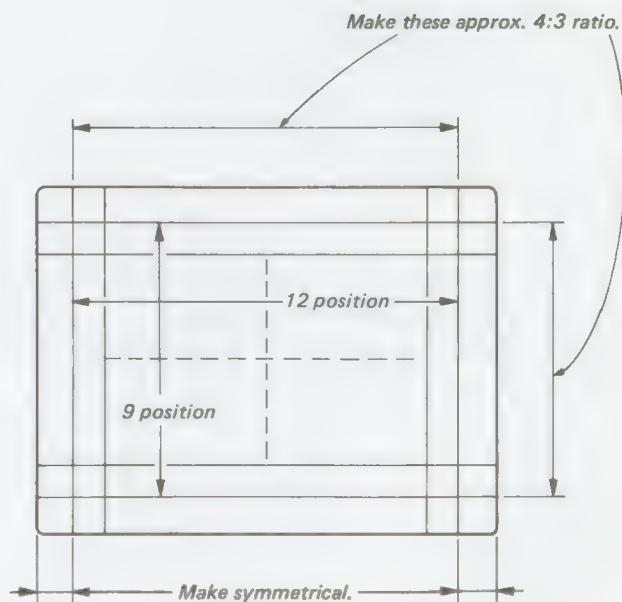

Fig. 5-135.
6. Adjust RV 1 and L1 so that the ratio of 12 horizontal portions and 9 vertical portions is approx. 4:3 and the horizontal positions becomes symmetrical. (See Fig. 5-135.)